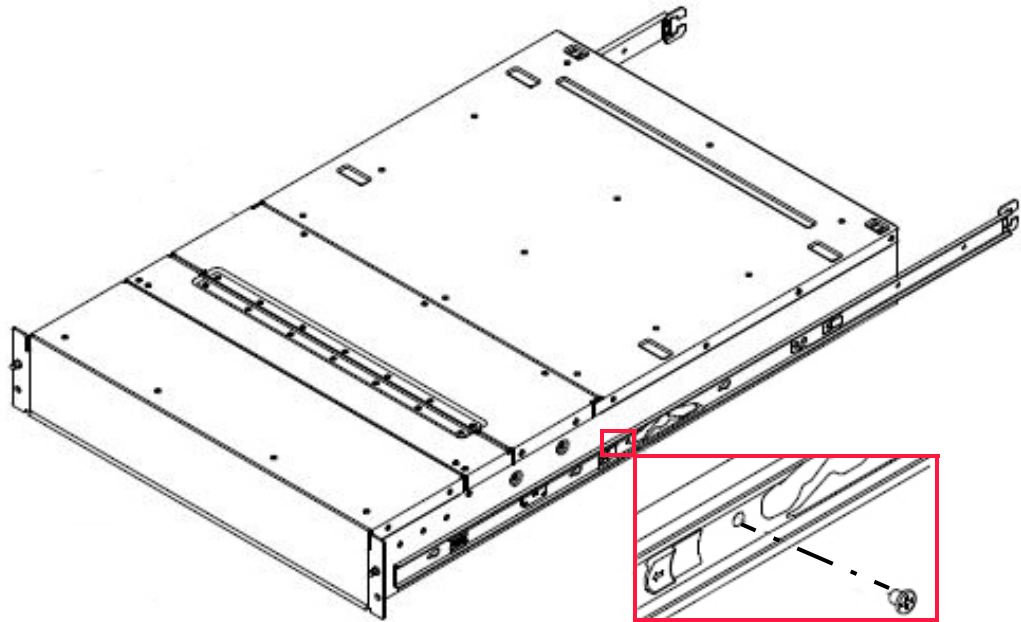

Figure 2.15 Securing the rail
3. Secure the rail in place using one of the M4 X 4 screws in the hole just behind the release tab as identified in Figure 2.15 on page 20.